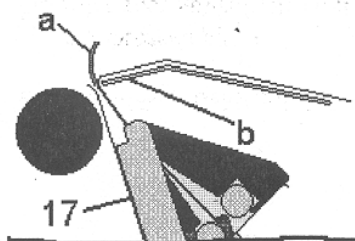

Fig. 6.3a
See Fig. 6.3a and Page 6.4
- 4b. Make sure that the tabs are advancing at the proper angle. See Page 6.3, Fig. 6.3a and the directions that follow, on adjusting the tab deflector.